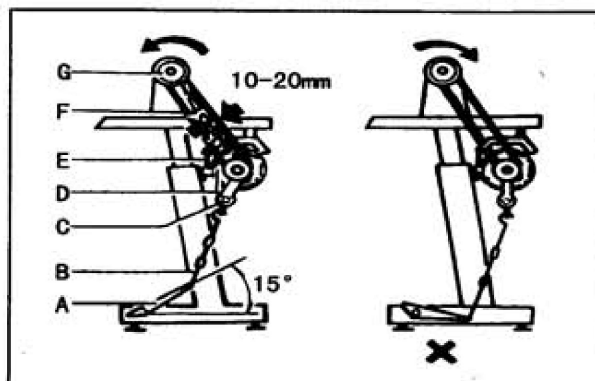

Fig. 2
3. CONNECT THE CLUTCH LEVER WITH THE PEDAL (Fig.2)